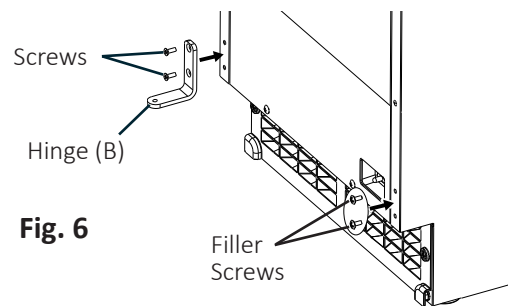

Fig. 6
d) Remove hinge (B) from the right side of the appliance and the 2 filler screws from the left side. Attach the 2 filler screws to the right side and attach hinge (B) to the left side (See Fig. 6).